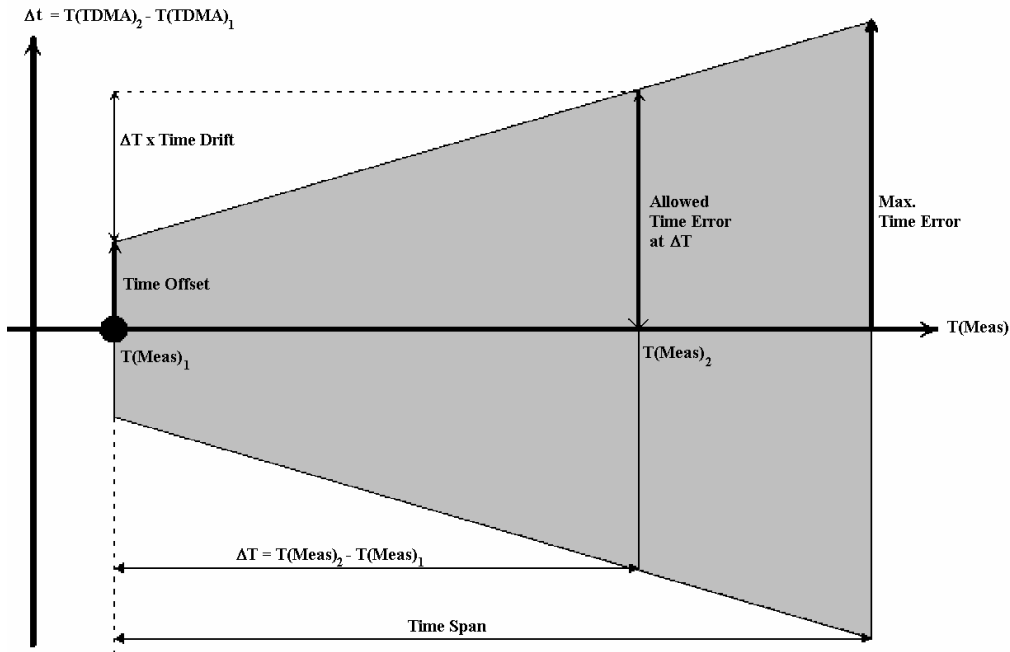

Fig. 5-29 Matching Entries: Range Parameter Explanation
The decision whether two detected signals originate from the same BTS is based on a comparison of the measurement times  $T(\text{Meas})$  for both signals and of their measured time offsets  $T(\text{TDMA})$ . Fig. 5-29 above The figure shows the matching entries in the  $T(\text{Meas})$ - $T(\text{TDMA})$ -plane: If the large dot at  $T(\text{Meas})_1$  corresponds to the measurement result for signal 1 and the result for signal 2 is within the shaded area, then the two signals are considered to originate from the same BTS. If both signals contain at least info level 2, then the TDMA frame number is compared in addition, which extremely enhances the accuracy.
**Matching Area** The shaded matching area in Fig. 5-29 is bordered by the measurement time of the first signal detected  $T(\text{Meas})_1$ , the measurement time  $T(\text{Meas})_1$  plus the *Time Span*, and the straight lines parametrized by the equations